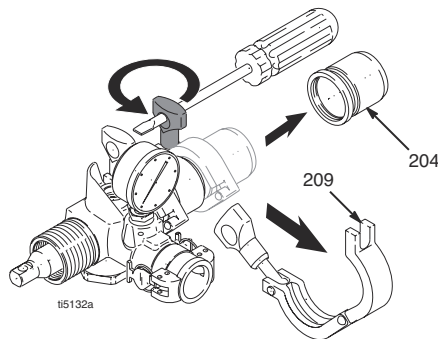

FIG. 13
3. Fig. 13. Remove clamp (209) and intake housing (204).